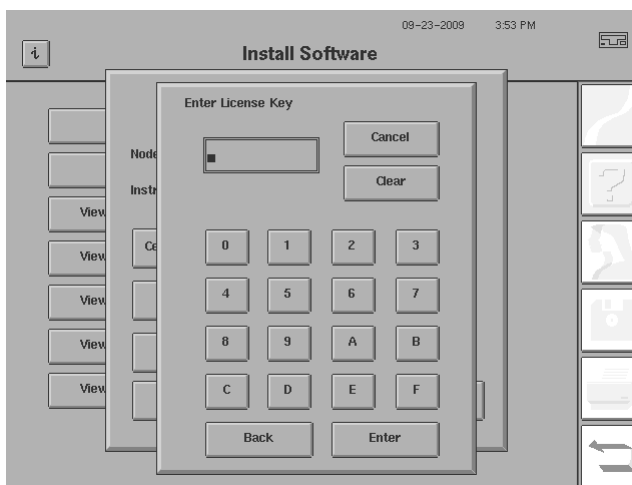

Figure J.10 Pop-up Keypad for License Key
- 2 When you are returned to the License Registration screen, select LICENSE KEY. A pop-up keypad will open as is shown in Figure J.10. Use it to enter your License Key that you received on the Carl Zeiss Meditec website. Then select ENTER to record the data and return to the License Registration screen.